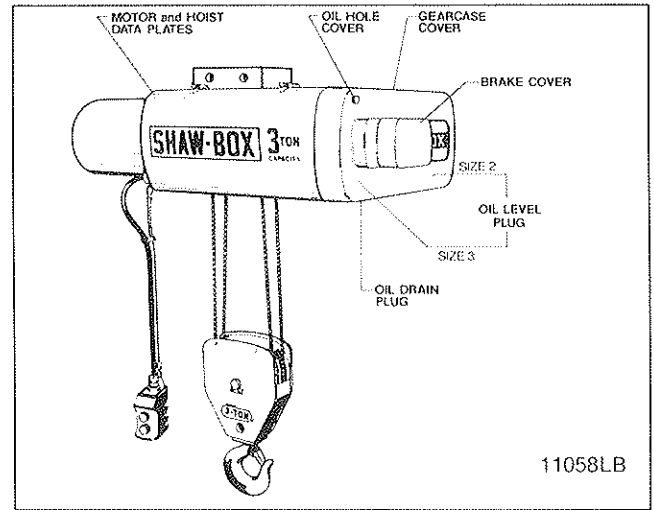

Figure 1-1. Hoist Arrangement.
b. To determine the size of your hoist, measure the width of the hoist at the gearcase cover (see Figure 1-1). If the width is 23¾ inches the hoist is a Size 2 or DMR-1; if 34¾ inches, it is a Size 3 or DMR-2 thru DMR-5.
3-2. Check oil level. Remove plug located on side of gearcase adjacent to the embossed words "OIL LEVEL." (See Figure 1-1.) When properly filled, oil should be level with bottom of tapped hole. Fill to this level with DEXRON automatic transmission fluid.